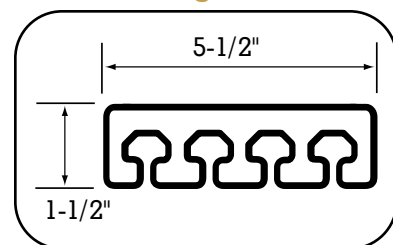

Fig. 10
- 2x6 Planks (12', 16', 20' lengths; approximately 2.6 lb. per ft.) (Fig. 10)